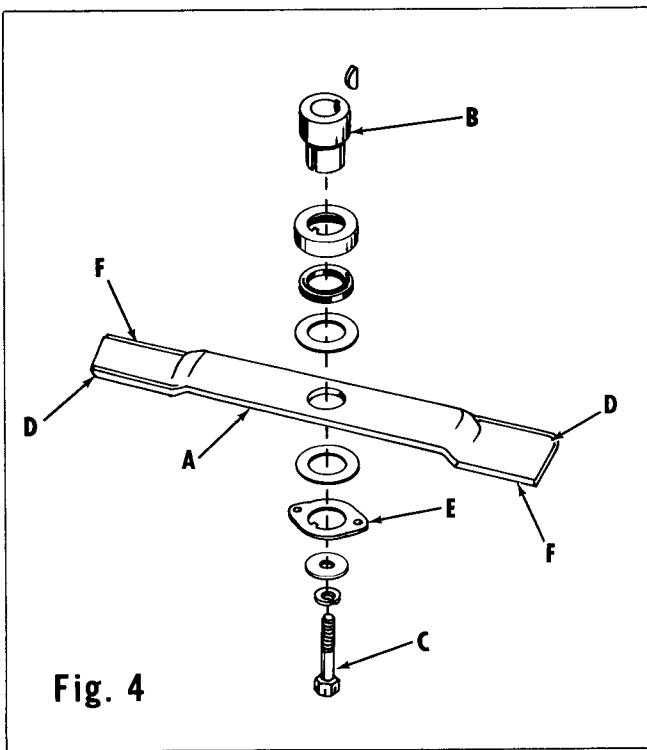

Fig. 4
The cutter bar (A) is attached to the shaft by means of a blade hub (B) (see Figure 4). To remove the cutter bar for sharpening, loosen the cutter bar screw (C) and remove from shaft. To assist in removing the cutter bar, insert a nail or other similar rod through the hub washer (E) in the holes provided, allowing it to bear against the cutter bar for easier removal.
All the various cutter bar parts are loose on the shaft and can be easily removed. When reassembling cutter bar (A) after sharpening, be sure suction ends (D) are pointed upwards, also make sure all parts are reassembled as shown in Figure 4. Be sure cutter bar screw (C) is tight before mower is put in operation.